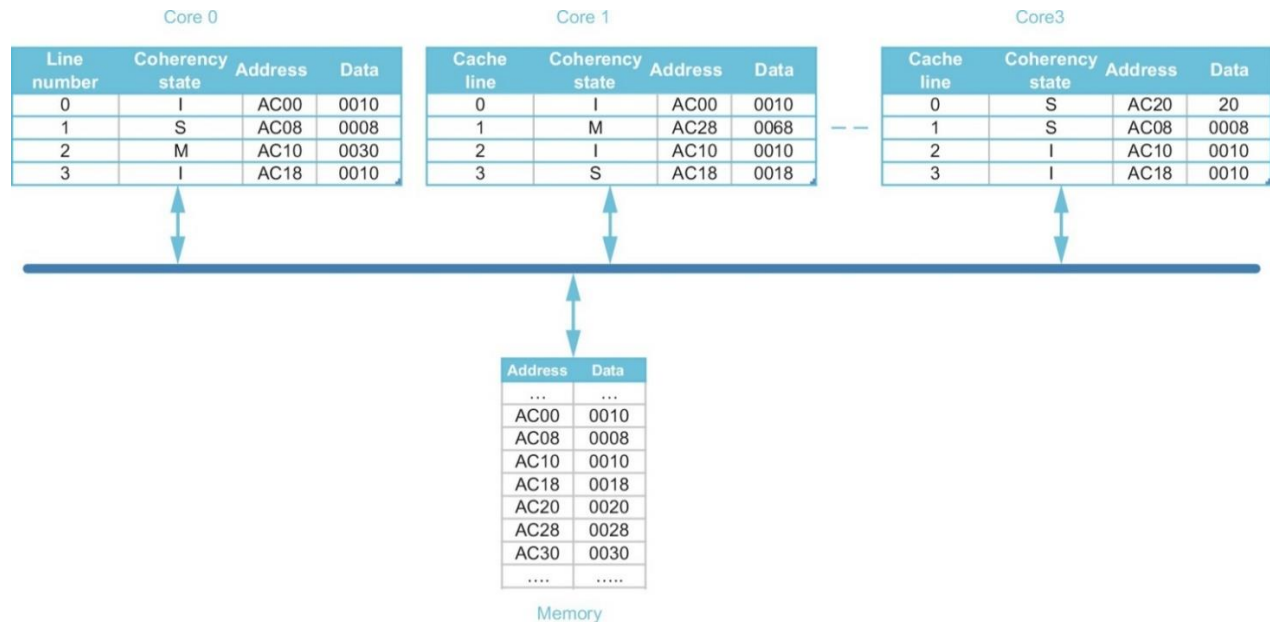

Figure 5.37 Multicore (point-to-point) multiprocessor.
A multicore SMT multiprocessor is illustrated in Figure 5.37. Only the cache contents are shown. Each core has a single, private cache with coherence maintained using the snooping coherence protocol of Figure 5.7. Each cache is direct-mapped, with four lines, each holding 2 bytes (to simplify diagram). For further simplification, the whole line addresses in memory are shown in the address fields in the caches, where the tag would normally exist. The coherence states are denoted M, S, and I for Modified, Shared, and Invalid.
**5.1.** For each part of this exercise, the initial cache and memory state are assumed to initially have the contents shown in Figure 5.37. Each part of this exercise specifies a sequence of one or more CPU operations of the form
**5.2.** The performance of a snooping cache-coherent multiprocessor depends on many detailed implementation issues that determine how quickly a cache responds with data in an exclusive or M state block. In some implementations, a processor read miss to a cache block that is exclusive in another processor's cache is faster than a miss to a block in memory. This is because caches are smaller, and thus faster, than main memory. Conversely, in some implementations, misses satisfied by memory are faster than those satisfied by caches. This is because caches are generally optimized for “front side” or CPU references, rather than “back side” or snooping accesses. For the multiprocessor illustrated in Figure 5.37, consider the execution of a sequence of operations on a single processor core where
To observe how these cycle values are used, we illustrate how the following sequence of operations, assuming the initial caches' states in Figure 5.37, behave under implementation 1.